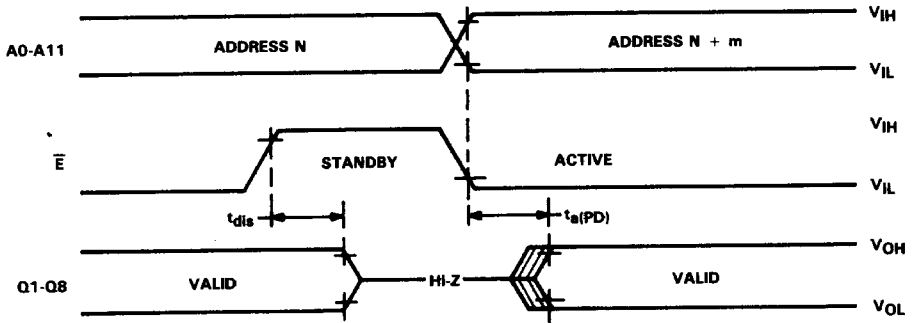

**FIGURE 1. LOAD CIRCUIT**
**switching characteristics,  $T_A = 0^{\circ}\text{C}$  to  $70^{\circ}\text{C}$ ,  $V_{CC} = 5\text{ V} \pm 10\%$  (see Figure 1)†**